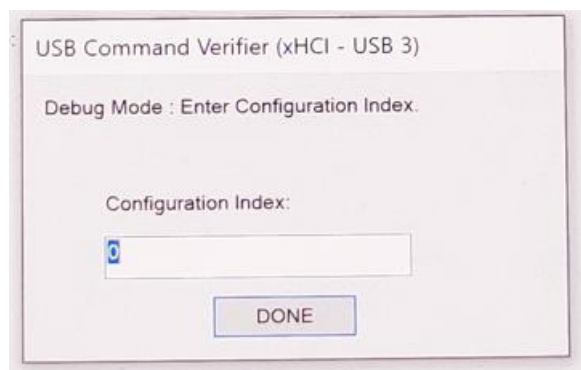

FIGURE 7.3: USER PROMPT TO ENTER DEBUG MODE CONFIGURATION INDEX IN CV TOOL FOR TD 4.9.1 TESTS
2. In the next pop-up message (Figure 7.3 below), the user will need to enter the appropriate Configuration Index value in hex for Debug mode and then select “DONE”.